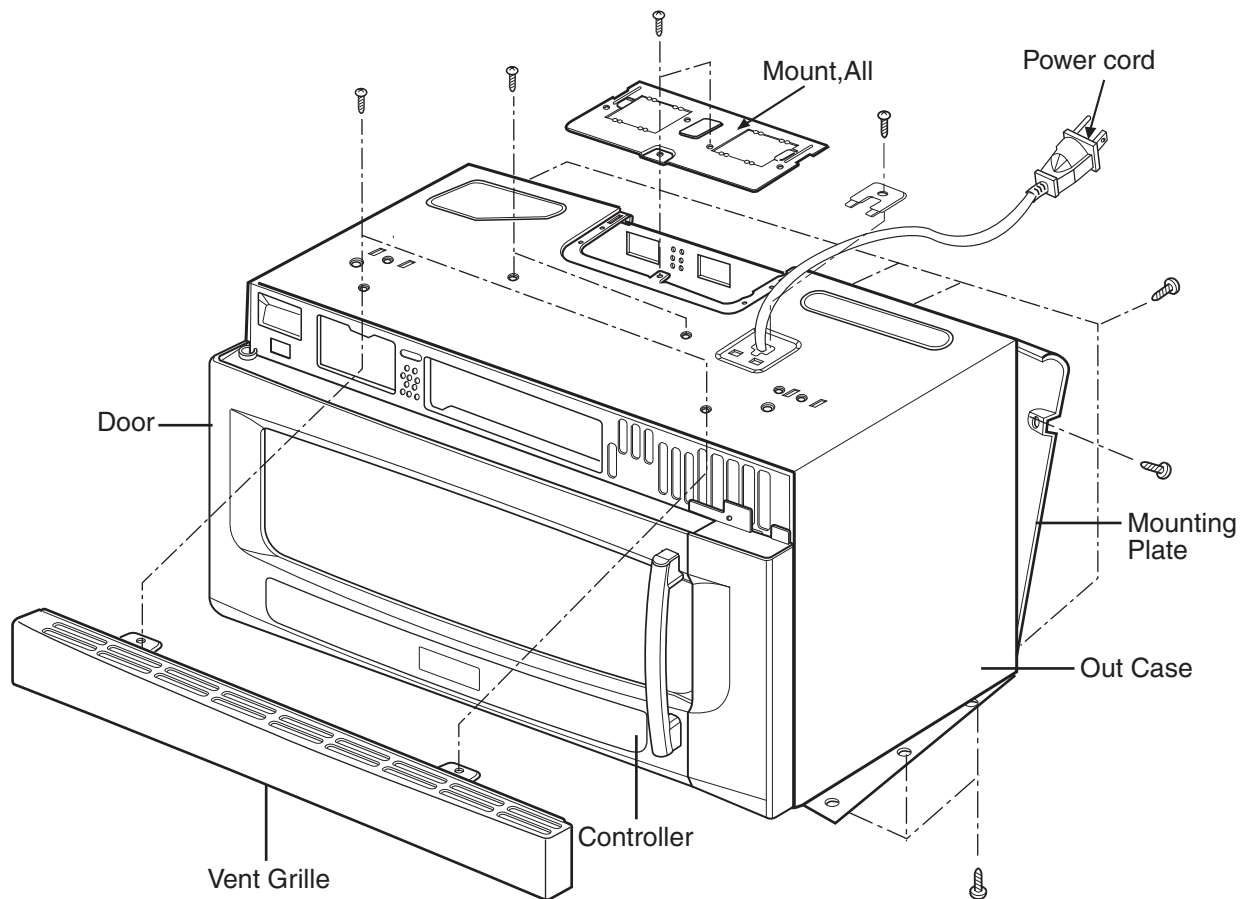

Figure 8
B. REMOVING THE OUT SIDE CASE (Figure 8)
- (1) Remove the vent grille by removing two screws securing it to the out case.
- (2) Remove two screws securing it to the air duct.
- (3) Remove the mounting plate by turning the screws (1 or 2 screws)securing it to the out case.
- (4) Remove two screws on the left central edge and two screws on the right central edge of Base plate. Remove the Mount, All from the out case by removing one screw securing it to the out case.
- (5) Remove four screws of the rear cavity.
- (6) Remove the outcase with disconnecting power cord connector.